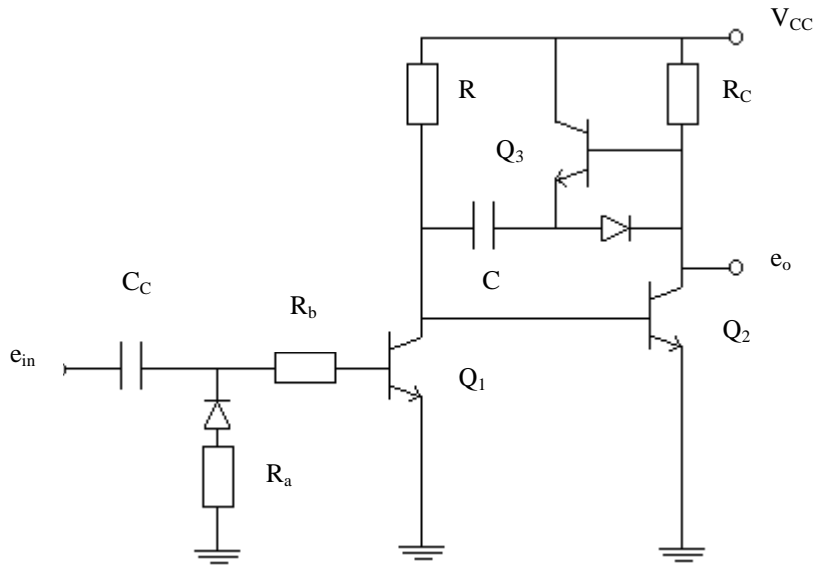

Figure 5.
T_S is called as the sweep time, T_R is called as the recovery time and $T_R = 5\tau_R$. T_R can be reduced by decreasing the value of R_C , but this degrades the linearity of the sweep. To improve the recovery time the circuit in figure 5 can be used. Here Q_3 is used as an emitter follower. The resistance seen by the capacitor C is decreased by a multiple of $(1 + \beta)$. While S is closed, Q_1 is in SAT and Q_2 is in CUT-OFF and C is charged by the time constant
3.4. Plot $e_o(t)$ in figure 5, if the switch is operating at a rate of 500Hz. (Assume input signal is a square wave input, $f = 500\text{ Hz}$ and $V_{pp} = 4\text{V}$)